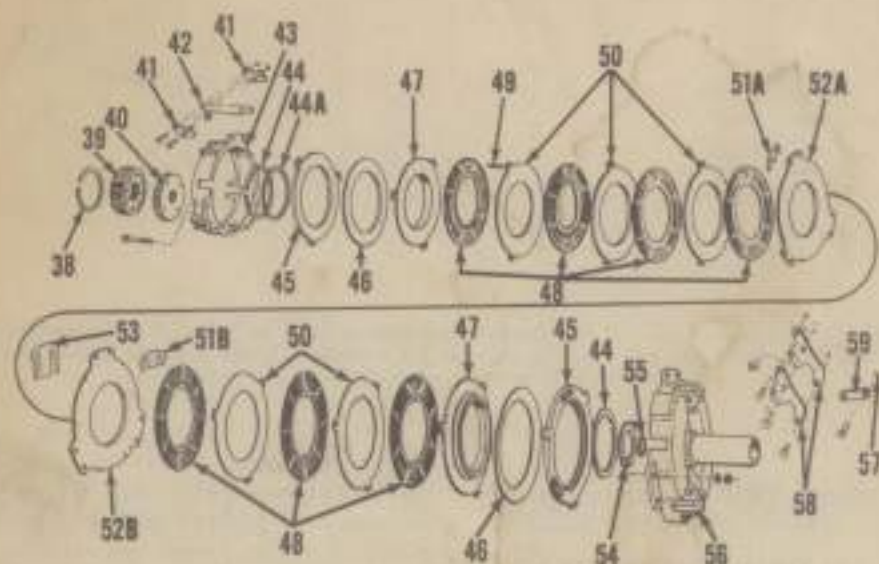

Fig. 98—Exploded view of D-17 "Power-Director" clutch assembly, D-14 and D-15 models are similar except spacer (44A) is omitted.
160. **CLUTCH ADJUSTMENT.** Refer to Fig. 98. Clutch plate pressure is applied through a spring (Belleville) washer (48) that is located between the pre-load plate (45) and the pressure plate (47) of each clutch pack. The spring washer must be compressed 0.042-0.046 when clutch pack is engaged. If compression is less, slippage of clutch will result. If compression of spring washer is greater than 0.046, clutch pack will not release properly. Adjustment is provided with shim packs (51A, 51B and 53) placed between the clutch housings and adjoining center plates and between the two center plates.
The clutch assembly is a balanced unit; therefore, the front and rear housings should be marked prior to disassembly in order to maintain the balance when clutch is reassembled. Refer to Fig. 98 and proceed as